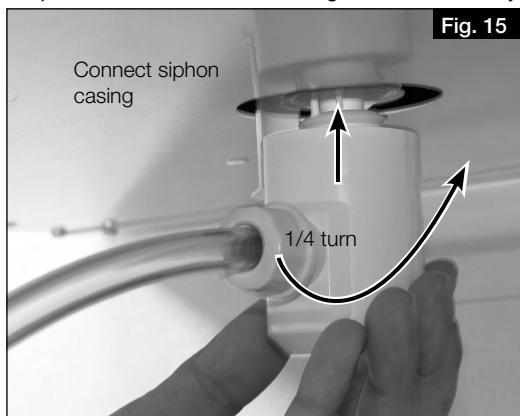

Fig. 15
5. Connect siphon casing and turn a 1/4 turn in the mounting part (see Fig. 15). Ensure that the float ball is loose in the casing!